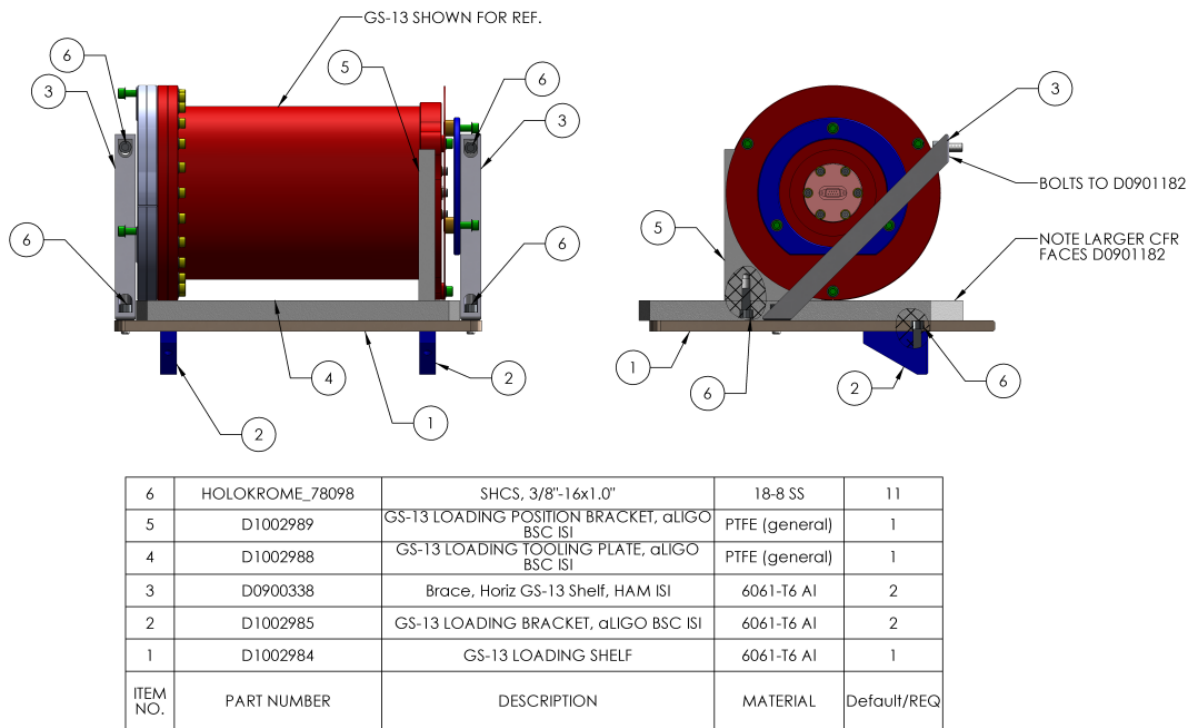
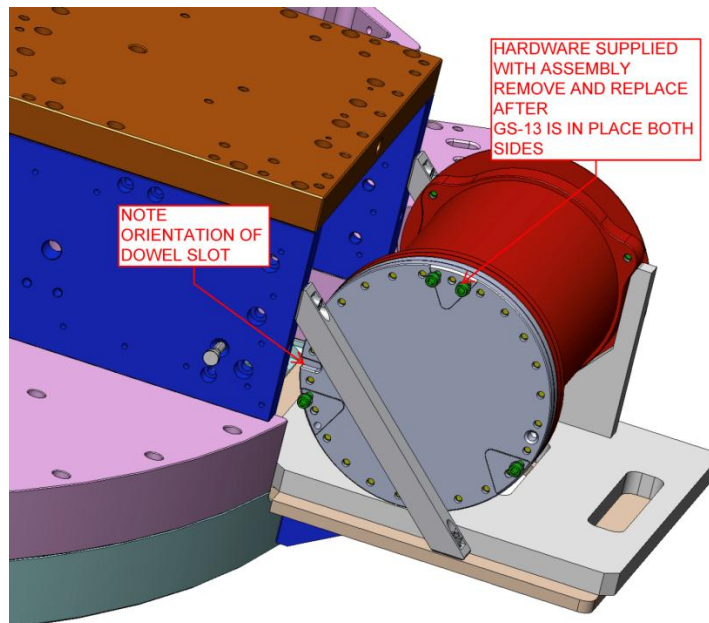
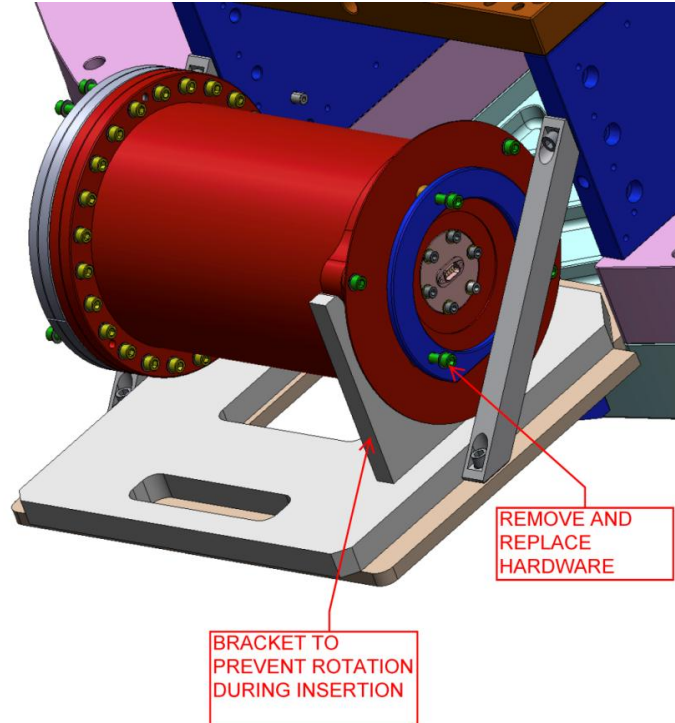
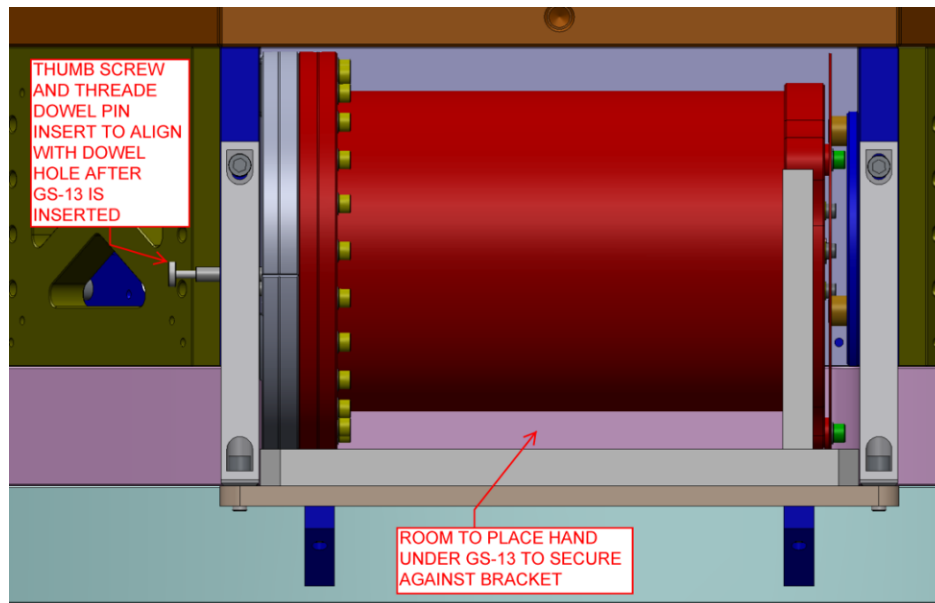

Figure 60: Special tooling for horizontal GS-13 installation
Figure 61: Horizontal GS-13 install-alignment marks should go on the bottom for accurate positioning
Figure 62: Horizontal GS-13 installation
Figure 63: Horizontal GS-13 installation (2)
(2) 3/8 Vented Washers – UCC WFV-38
- Install GS-13 Installation Tooling on Stage 2 as shown on Figure 60 & Figure 61.
1.52. Place GS-13 on tooling as shown Figure 60, Figure 61 & Figure 62
1.53. Secure the GS-13 manually against D1002989 GS-13 Loading Position Bracket (see Figure 62), once it is secure, slide D1002988 GS-13 Loading Tool Plate holding the GS-13 in place (see Figure 63).
- Gently insert the GS-13 until the dowel slot mentioned in Figure 61 engages the dowel pin already pressed in D0901521 Radial Left Wall.
- Repeat this step for the (2) other Horizontal GS-13.